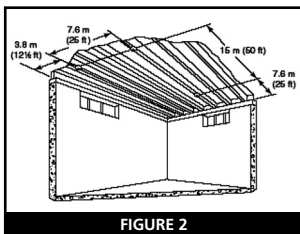

FIGURE 2
- In rooms with open joists or beams, all ceiling mounted alarms shall be located on the bottom of such beams (see figure 2).
- Alarms installed on an open-joisted ceiling shall have their smooth ceiling spacing reduced to no more than half of the listed spacing when measured at right angles to the solid joist (See figure 2).